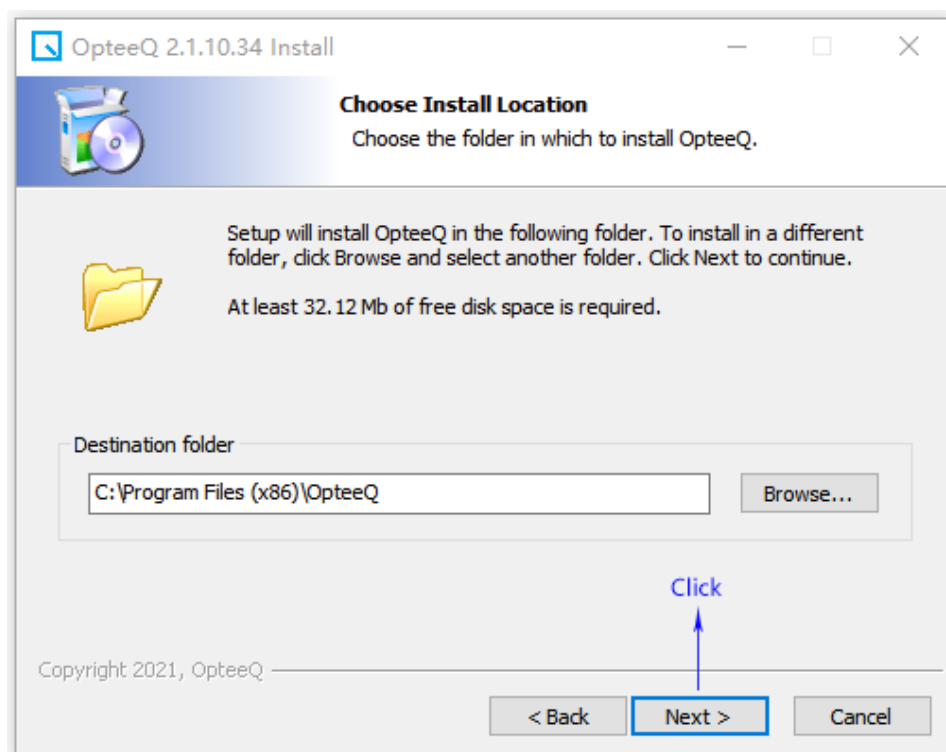

Figure 1.5: Step 5
Step 5: It is available to customize the setup path in the pop-up interface. Click "Next", as shown in Figure 1.5.